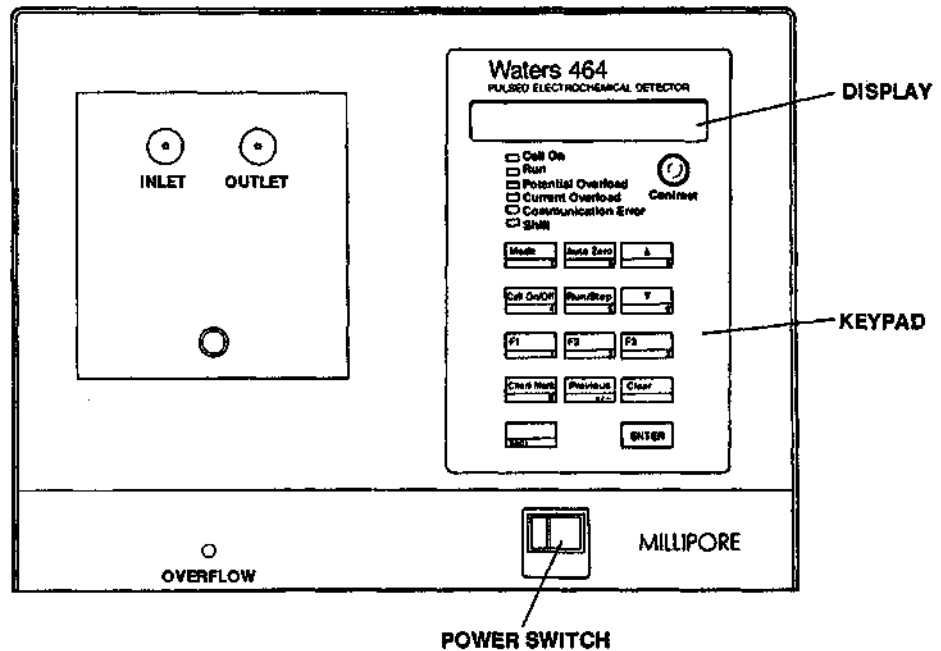

Figure 3-13 Front Panel POWER Switch and Keypad
4. Push the detector's POWER switch (Figure 3-13) into the ON position. The detector has a two-minute warm-up period. At the beginning of the warm-up period, the screen first displays: